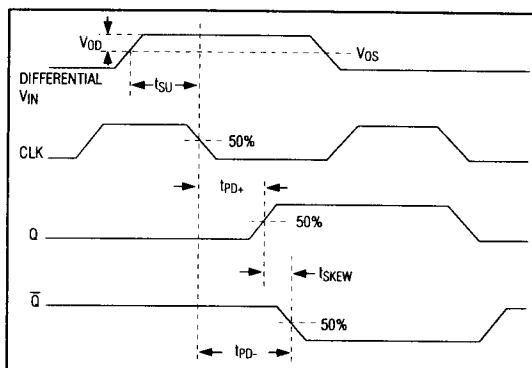

Figure 1. Timing Diagram
**Note 6:** Guaranteed by design. Measured in a high-speed fixture with CL = 15pF, IQ = 2mA. See Figure 1 for timing parameter definitions. Guaranteed for both single- and dual-supply operation.
**Note 8:** Propagation delay skew is defined as the difference in tPD for the complementary outputs, Q and Q̄ (see Figure 1).